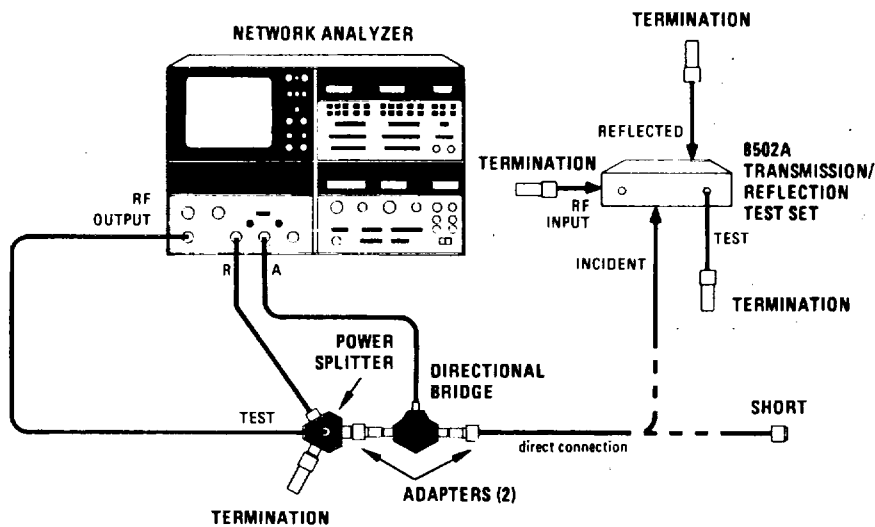

Figure 16. INCIDENT, REFLECTED, and RF INPUT Port Return Loss Test Setups
c. For INCIDENT port return loss measurements connect equipment as shown in Figure 16, Configuration A with no connection to mainline TEST port of Directional Coupler.
- (2) Read worst-case Return Loss from 8505A Signal Processor Channel 1 digital display. The indications should be >25 dB below the zero dB reference level for the frequency range 100 to 1000 MHz.
- j. To determine the INCIDENT port Return Loss for the frequency range 2 to 1000 MHz connect equipment as shown in Figure 16, Configuration B with LOAD port on Directional Bridge shorted. Set 8505A Frequency Control RANGE MHz switch to .5 — 130. Adjust FREQUENCY MHz START control to 002.0 and FREQUENCY MHz STOP control to 100.0.
- (1) On 8505A CRT display, push REF LINE POSN pushbutton and adjust CH 1 control until trace is positioned to center of screen. Press REF LINE POSN pushbutton again to return system to normal operation.
- (2) Set 8505A Frequency Control MARKERS switch to 1 and adjust MARKER 1 control to center graticule.
- (3) On 8505A Signal Processor Channel I press DISPLAY MKR and ZRO pushbuttons to place MARKER 1 on reference line and to zero digital readout.
- n. For REFLECTED port Return Loss measurements repeat steps a - m, except directly connect the REFLECTED port to the Dual Directional Coupler (Figure 16, Configuration A) or the Directional Bridge (Figure 16, Configuration B) with RF INPUT, INCIDENT, and TEST ports terminated in 50 ohms. The worst-case Return Loss measurements should be:
- o. For RF INPUT port Return Loss measurements repeat steps a - m, except directly connect the RF INPUT port to the Dual Directional Coupler (Figure 16, Configuration A) or the Directional Bridge (Figure 16, Configuration B) with REFLECTED, INCIDENT, and TEST ports terminated in 50 ohms. The worst-case Return Loss measurements should be: